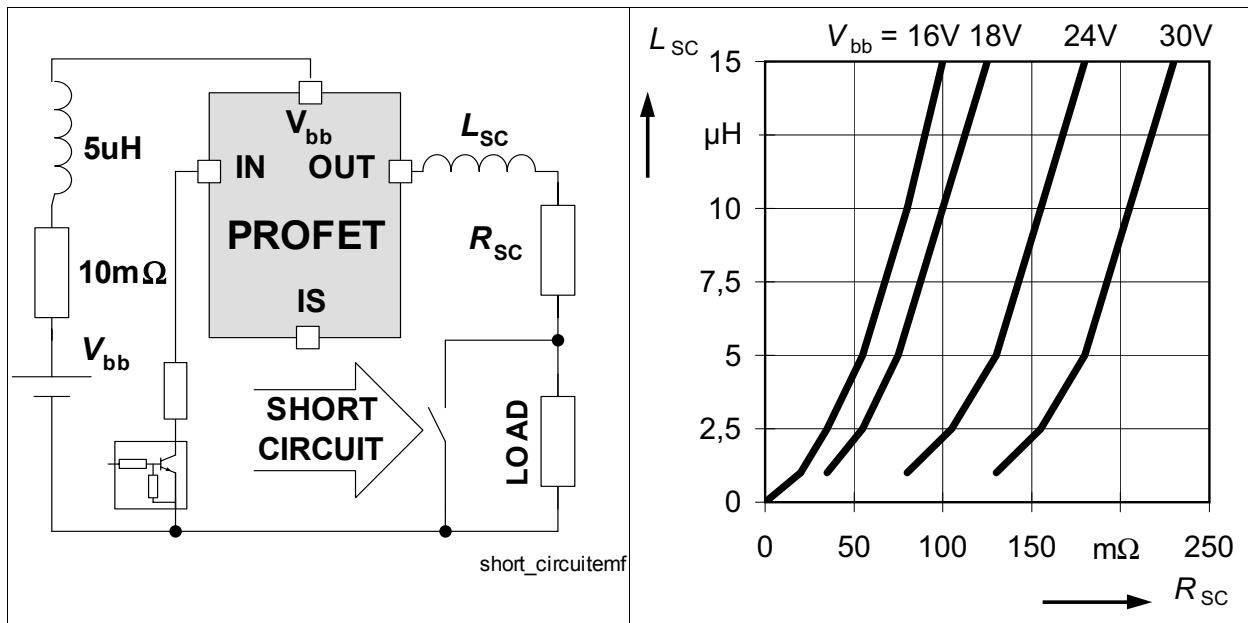

Figure 13 Short circuit
2) Short circuit is defined as a combination of remaining resistances and inductances. See Figure 13.
The capability to handle single short circuit events depends on the battery voltage as well as on the primary and secondary short impedance. Figure 13 outlines allowable combinations for a single short circuit event of maximum, secondary inductance for given secondary resistance.